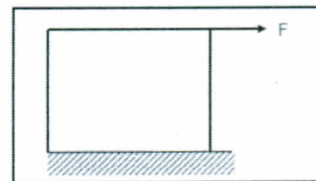

Fig. 1.
- i. A block of steel is loaded by a tangential force on its top surface while the bottom surface is held rigidly (Fig.1). The deformation of the block is due to